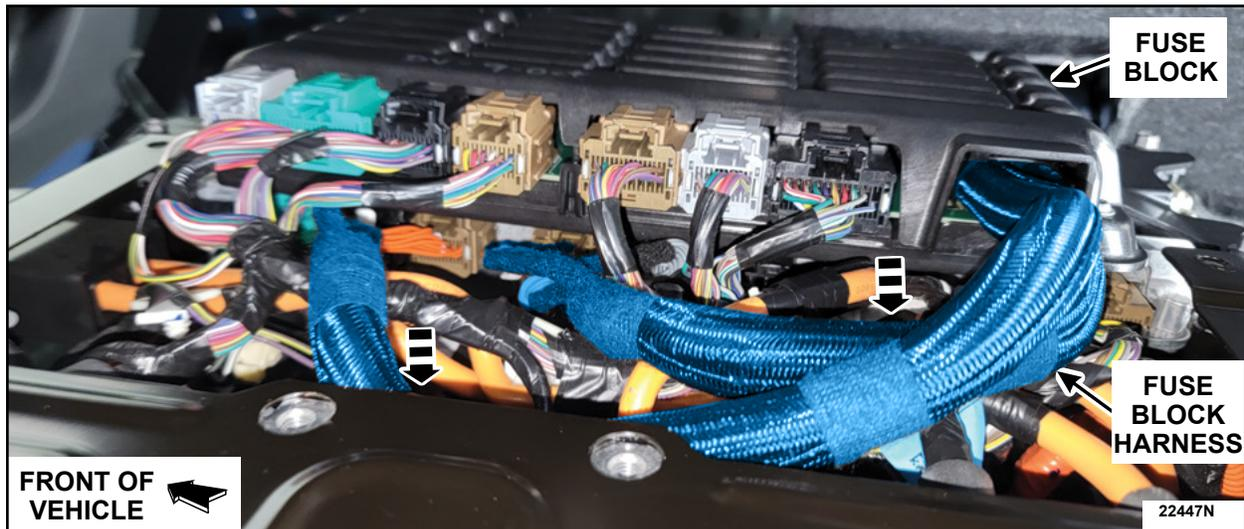

FIGURE 14
16. Position the fuse block harness down into the BECM cavity. See Figure 14.